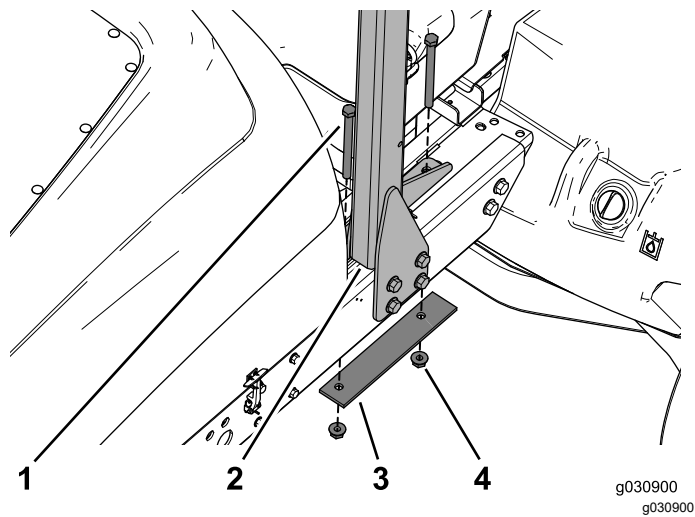

Figure 7
6. Arrange the reinforcement plate and battery compartment to allow you to remove the 2 bolts, reinforcement plate, and 2 flange nuts that secure the roll bar to the top of the frame (Figure 7). Set them aside.